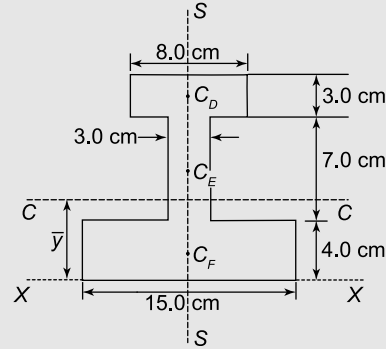

Figure 9.32
Problem 19. (a) Determine the second moment of area and the radius of gyration about axis XX for the I-section shown in Figure 9.32.
- (b) The centroid of the I-section will lie on the axis of symmetry, shown as SS in Figure 9.32. Using a tabular approach: